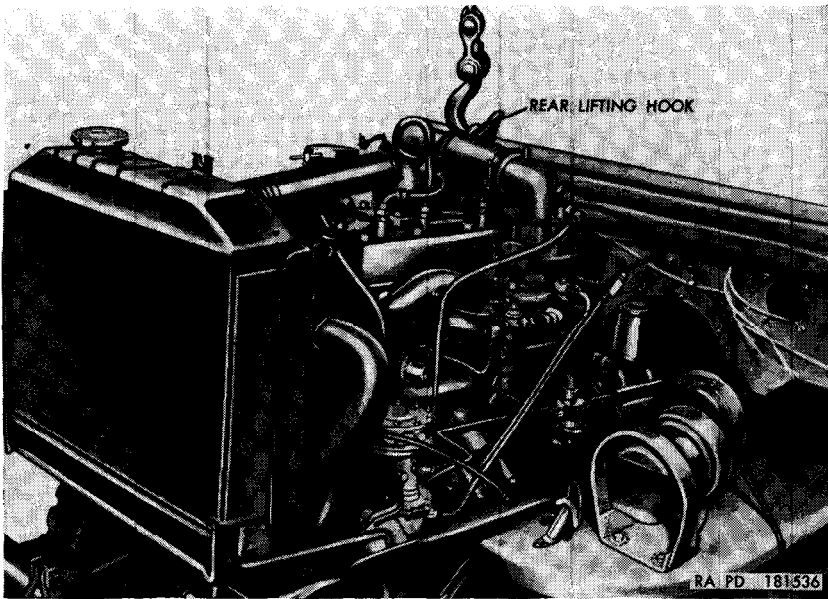

Figure 37. Removing power plant from vehicle.
- (2) Connect a suitable lifting device in the rear lifting hook (fig. 37), and carefully lift power plant until engine front mounting support cushions clear vehicle frame. Continue to lift power plant and, at the same time, roll vehicle back. Place power plant on a suitable stand.
- (1) Connect a suitable lifting device to the rear lifting hook (fig. 37) and raise power plant until it clears front of vehicle.
- (2) Lower power plant into engine compartment, tilting down transfer end of power plant.